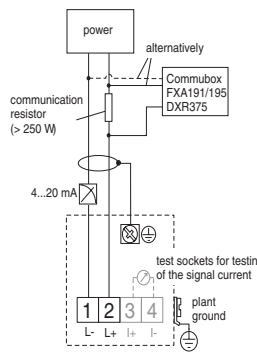

Fig. 8: Terminal assignment - 2-wire, 4-20mA with HART.
- The 2-wire, 4-20mA with HART version includes test sockets for testing of the signal current (see fig. 8).